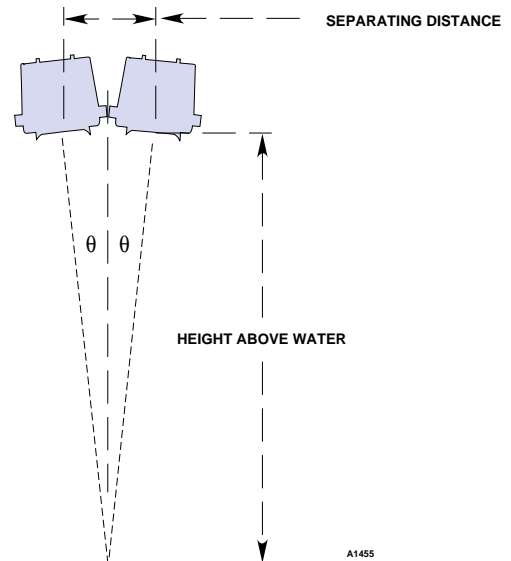

Figure 8—Alignment of Transmitter and Receiver
1. Use shims to "toe in" the transmitter and receiver so that both appear to be aimed at approximately the same point on the water surface directly below the instrument, as shown in Figure 8.